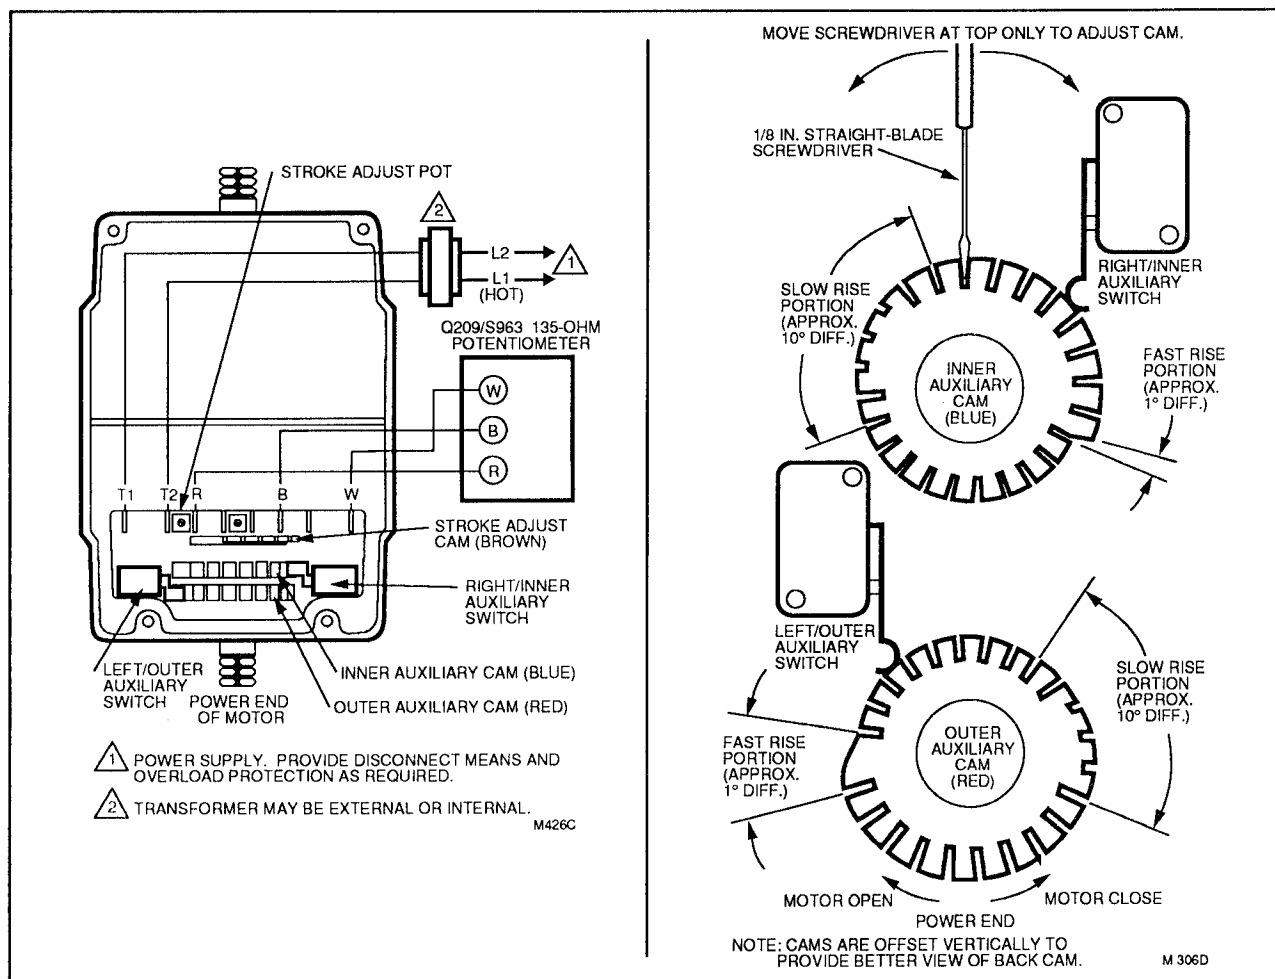

FIG. 21—AUXILIARY SWITCH ADJUSTMENT.
2. Motor position can be adjusted by using a 135 ohm potentiometer or by jumpering R to B or R to W. To use a 135 ohm potentiometer, connect as shown in Fig. 21.